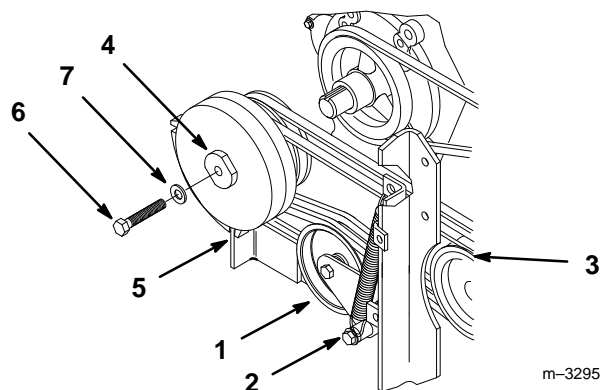

Figure 31
1. Hold spring loaded idler against belts and pull spring down to remove from lower bolt mount (Fig. 31).
2. Lower idler to relax tension on belts and remove belts from gear box pulley (Fig. 31).
3. Hold flats on clutch hub and remove clutch mounting bolt and washer. Slide clutch off crankshaft and lower through frame (Fig. 31).
9. Hold spring loaded idler against belts and pull spring down to install on lower bolt mount (Fig. 31).